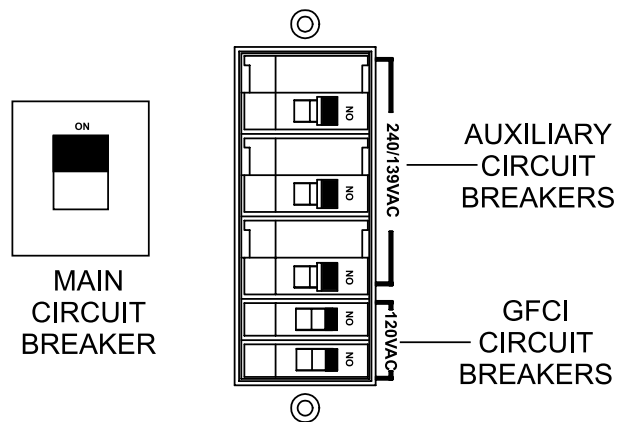

Figure 53. Main, Aux. and GFCI Circuit Breakers (ON)
11. Place the **main, GFCI, and aux.** circuit breakers in the **ON** position (Figure 53).